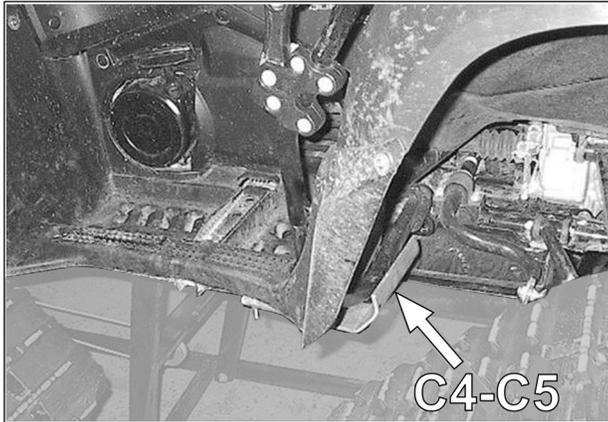
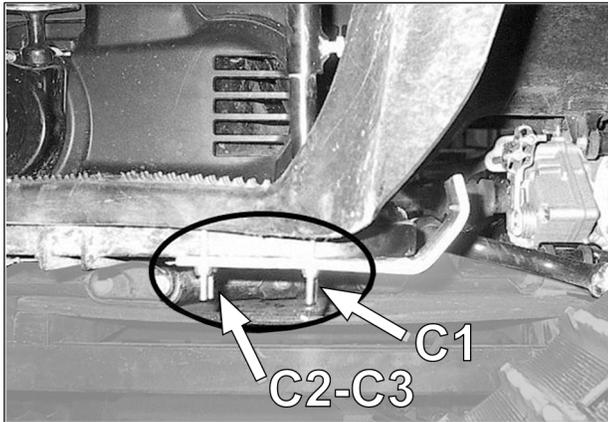

Fig. 24
Fig. 25
4. Install footrest protectors (C4-C5). Use M6x1.0 U-bolts (C1), washers (C2), and nuts (C3). Cut end of bolts. See Fig. 24 and Fig. 25